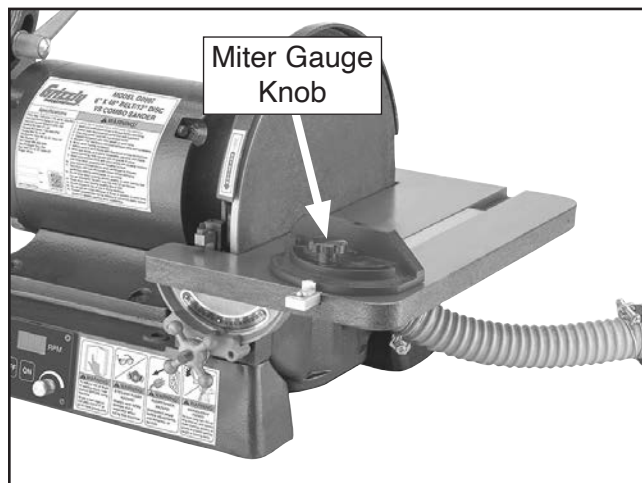

Figure 31. Location of miter gauge knob.
1. Loosen miter gauge knob (see **Figure 31**), adjust angle, then tighten knob to secure.